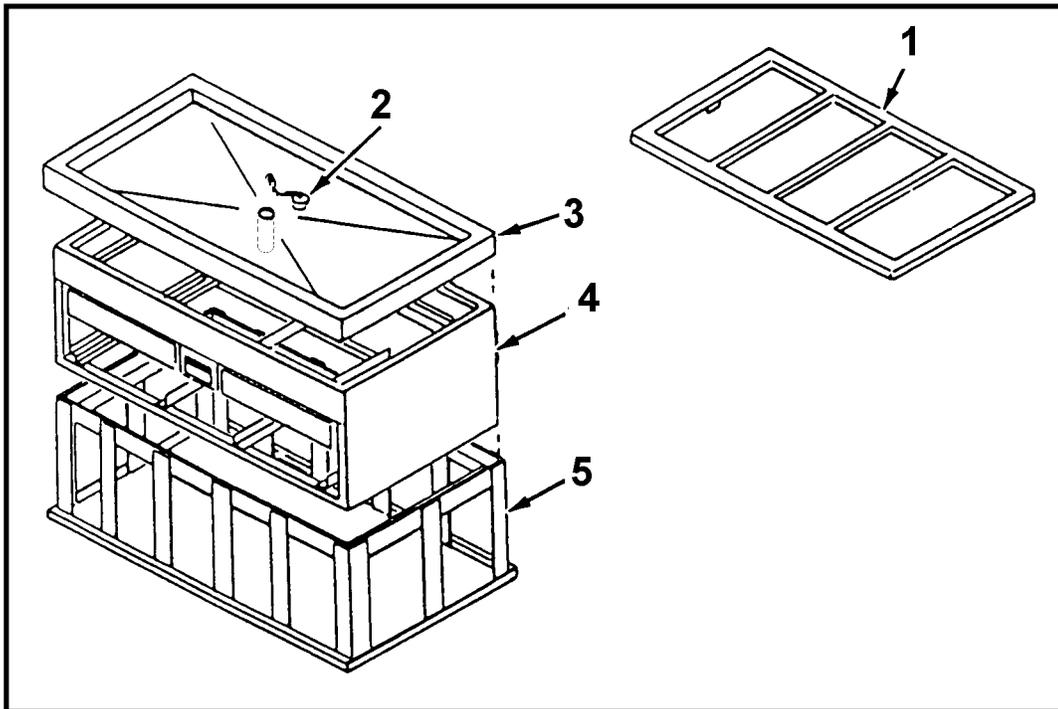

Figure 2-15. Steam table.
2. Disassemble the steam table. (See Figure 2-15.)
- a. Remove the top adaptor (1), and/or the roasting and baking pans.
- b. Pull the stopper (2) and drain the steam table.